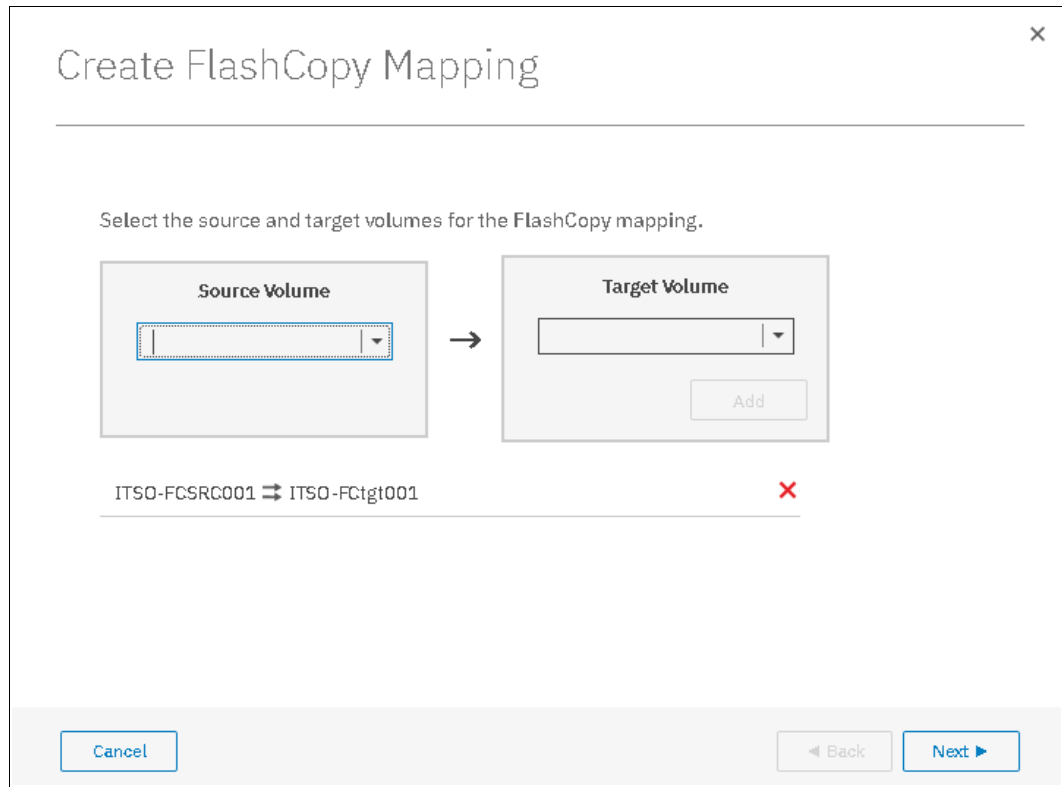

Figure 10-17 Create FlashCopy Mapping window
To remove a relationship that was created, click **X**, as shown in Figure 10-17 on page 496.
3. Click **Next** after you create all of the relationships that you need, as shown in Figure 10-17.